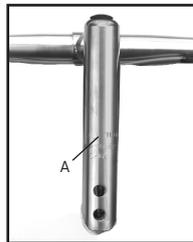

Figure 13- Minimum insertion mark on quill stem
3. Adjust the handlebar to the desired height, but with the minimum insertion line inside the frame (Figure 13). A minimum of  $2\frac{3}{4}$ " (70 mm) of the stem quill must always remain in the frame.
Never ride your bicycle with a quill stem raised above the minimum insertion mark. A quill stem that is positioned too high can damage the bike and can cause you to lose control and fall. Make sure the minimum insertion mark (Figure 13) is inside the frame.